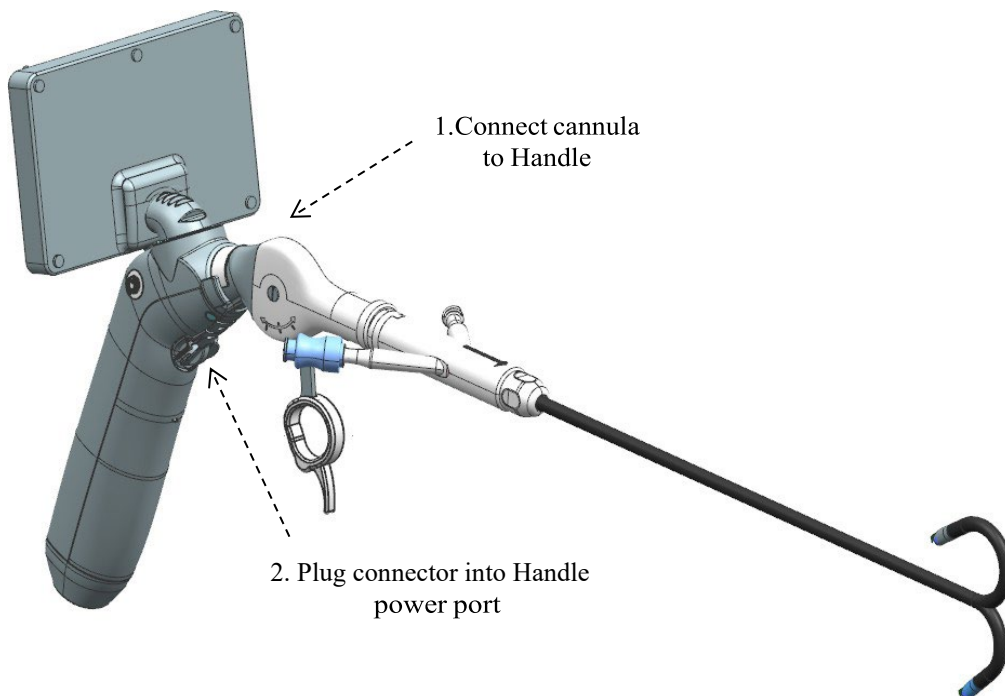

Figure 2. Attach Cannula to Handle
5.2.4. Once cannula is connected, insert the male USB connector of the disposable cannula into the USB female connector on the handle. See Figure 2.
- 5.3.2. Attach the cannula to the handle. See Figure 2. (For detailed instructions on connecting the cannula refer to section 5.2).